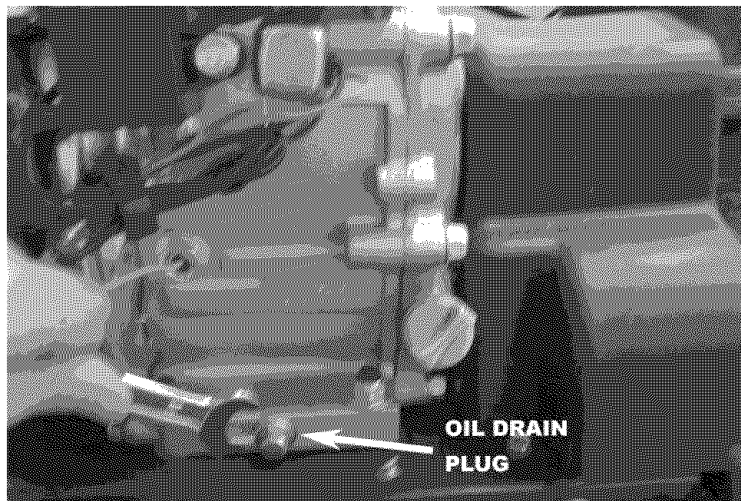

Figure 18- Draining the oil
2. Using a wrench, unscrew the oil drain plug. The oil drain plug is located just below and to the left of the oil filler cap as shown in figure 18. Allow all the oil to drain from the crankcase.